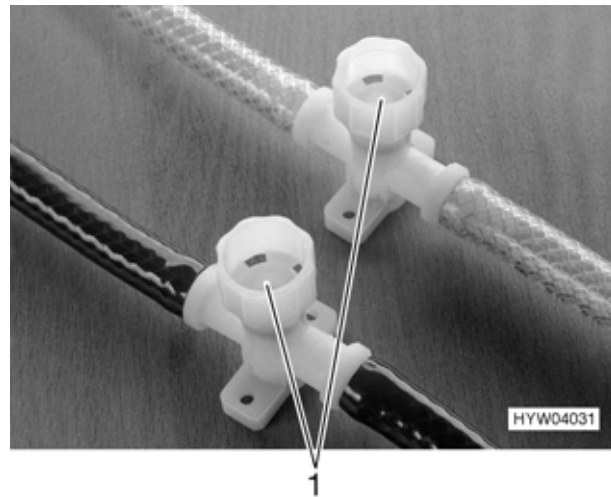
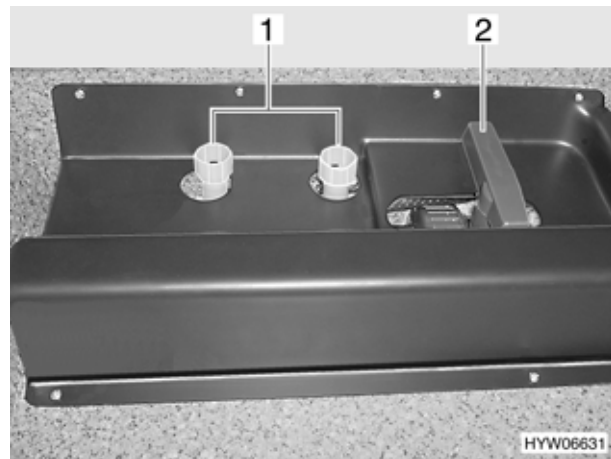

Fig. 143 Drainage valves for Star-Line
Fig. 144 Drainage valves for models with a double floor bottom
- Close the drainage valves: Close white valve caps (Fig. 143,1 or Fig. 144,1) by turning in a clockwise direction. The position where the drainage valves are installed is listed in the "Position of the Drainage Valves" table at the end of this chapter.
- Open the white valve caps (Fig. 143,1 or Fig. 144,1) in an anticlockwise direction.